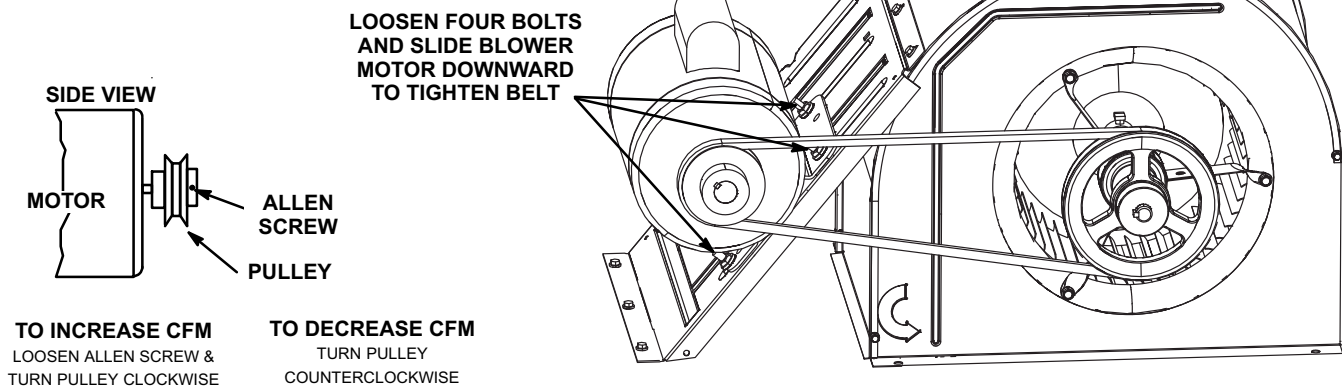

FIGURE 10
- 5- The blower RPM can be adjusted at the motor pulley. Loosen Allen screw and turn adjustable pulley clockwise to increase CFM. Turn counterclockwise to decrease CFM. See figure 10. Do not exceed minimum and maximum number of pulley turns as shown in table 1.
- 1- Loosen four bolts securing motor base to mounting frame. See figure 10.